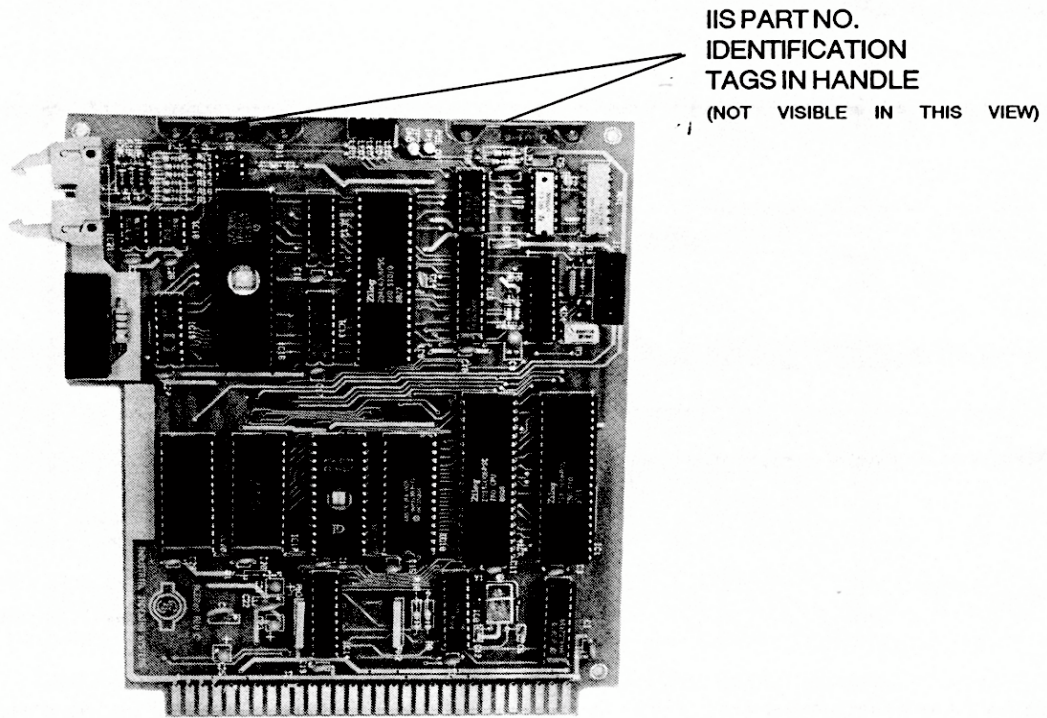
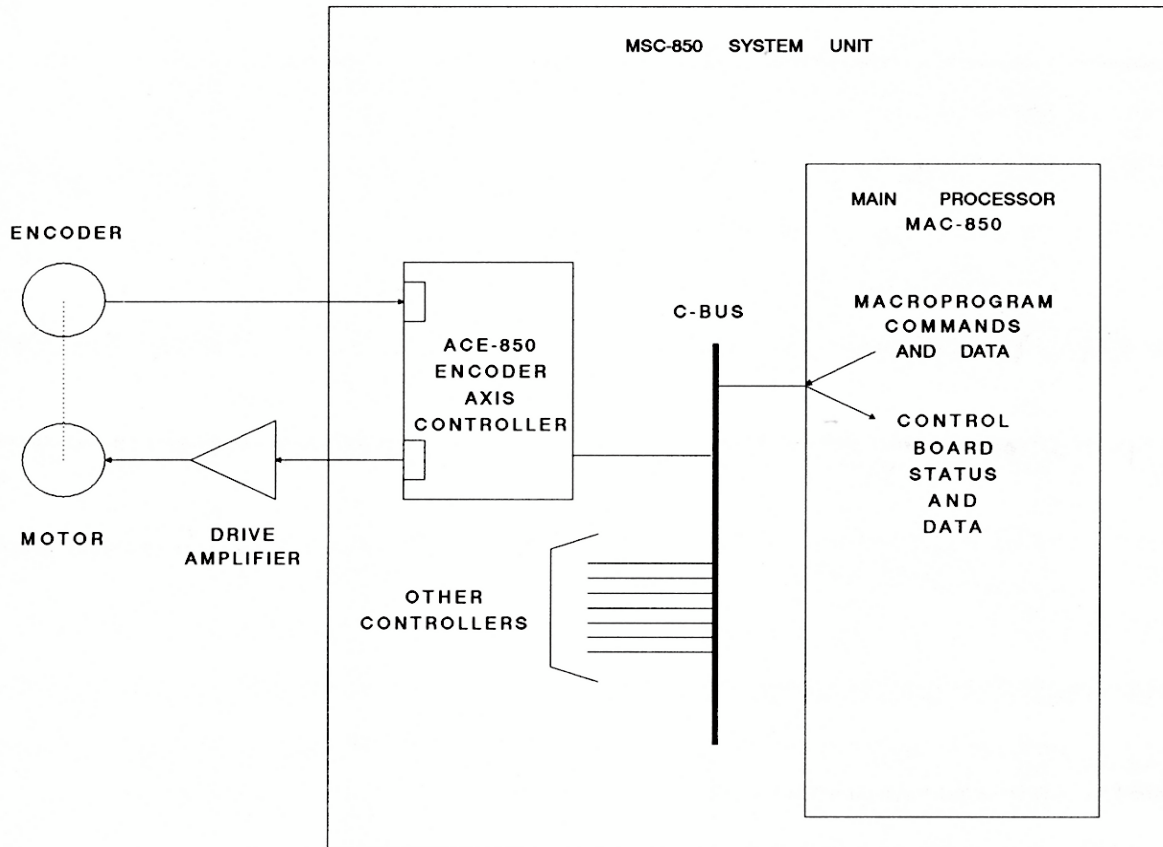

Figure 1-1 ACE-850 Encoder Axis Controller
Figure 1-2 ACE-850 Position Loop Overview Diagram
The ACE-850 Encoder Axis Controller is an edge connector printed circuit board (Figure 1-1) that can be plugged into one of the controller slots of the MSC-850 System Unit. It provides precision position loop control utilizing feedback data from the encoder on the motion control device (Figure 1-2).
Commands from the Macroprogram running in the MAC-850 Main Processor (Figure 1-2) are sent over a Command Bus (C-Bus) to the controller's microprocessor. The 24-bit wide digitized signals from the encoder and command generator are parallel processed. The microprocessor and its associated circuits perform the multiple functions of position command generation, comparator, and PID digital compensation to produce the POS OUT signal. With the standard default in the digital compensation gain algorithm (P), the POS OUT voltage is +/-5 Volts (ccw versus cw respectively) at the 90 degree position of the encoder shaft and +/-10 Volts at the 180 degree position.